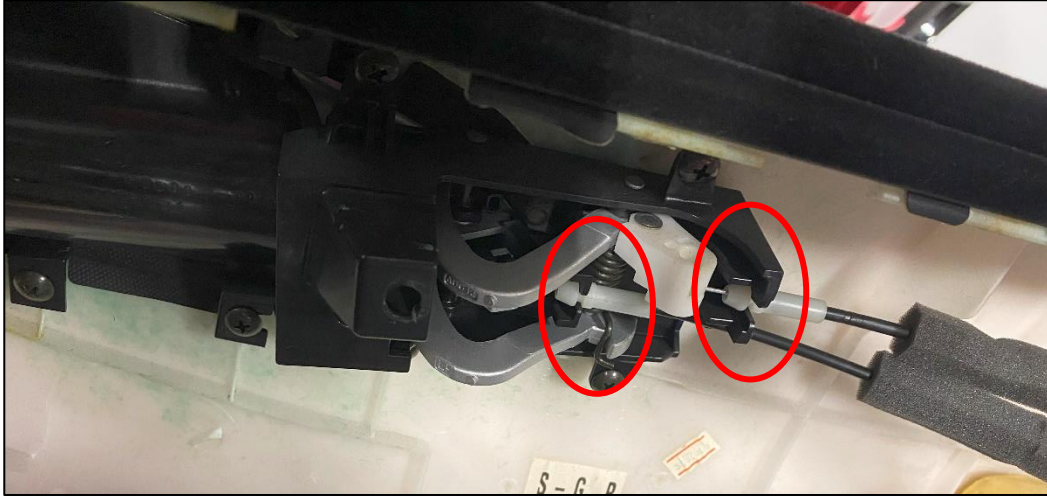

Figure 7
10. Disconnect the Door Latch and Lock cables from the Door Panel. They will easily pop out. *Figure 7.*